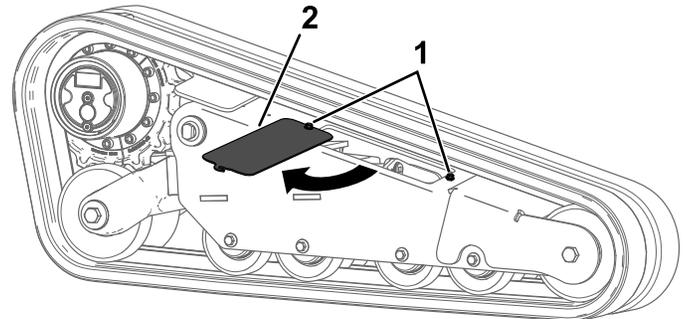

Figure 69
- Loosen the 2 bolts and rotate the access cover open (Figure 69).
15. Close the access cover and tighten the bolts (Figure 69). Torque the bolts to 41 N·m (30 ft-lb).